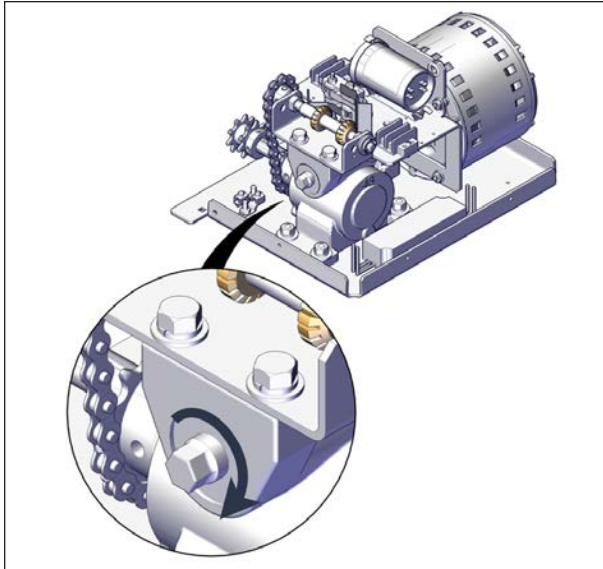

FIGURE 83: OPERATOR EXTENSION SHAFT
3. Use ½ in. (13 mm) hexagonal socket wrench to raise or lower the spa cover by turning the operator extension shaft see Figure 83.